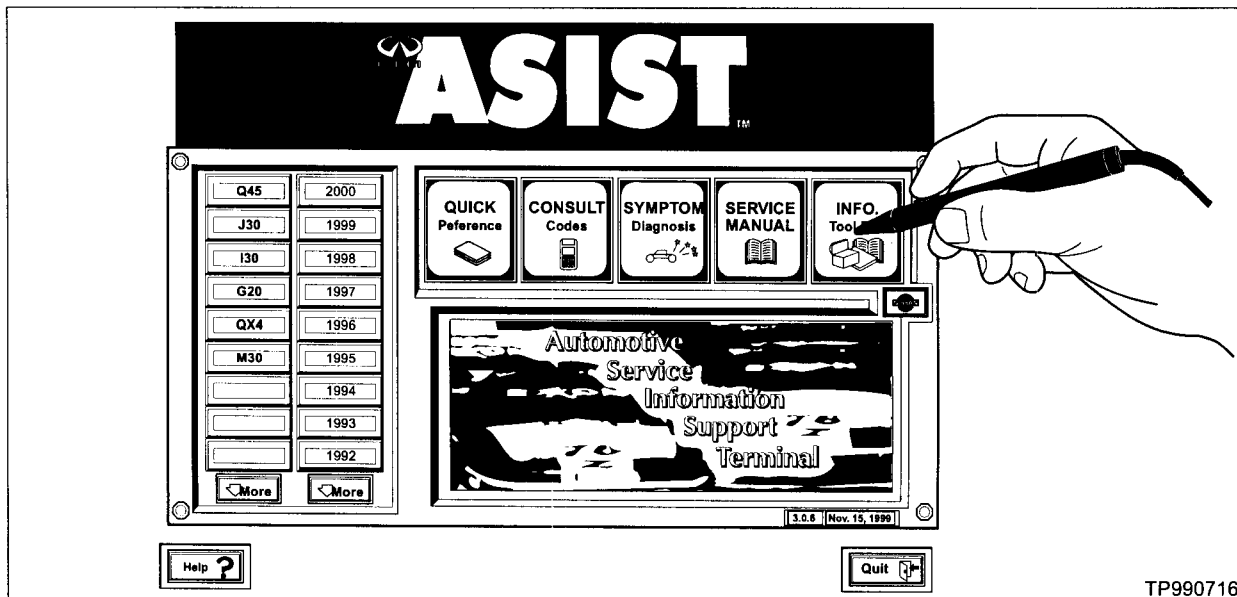

Figure 6
5. Launch ASIST. From the ASIST PC main menu screen, select "INFO. Tool Box" (see Figure 6).